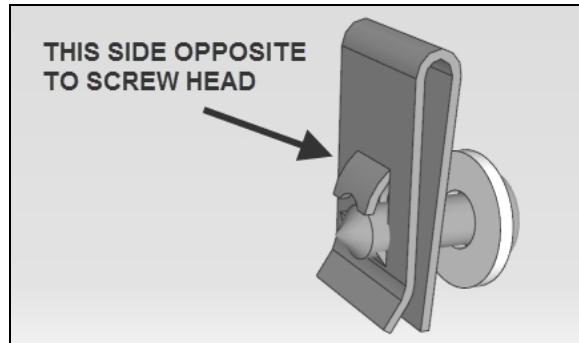

FIGURE 5
- 5) The tabs on the spring nuts must be located at the opposite side of the screw head (figure 5).